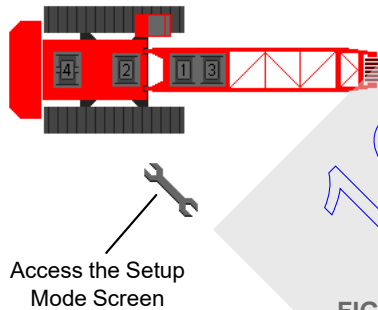

FIGURE 3-12
2. Scroll to and enter the setup screen (Figure 3-12).